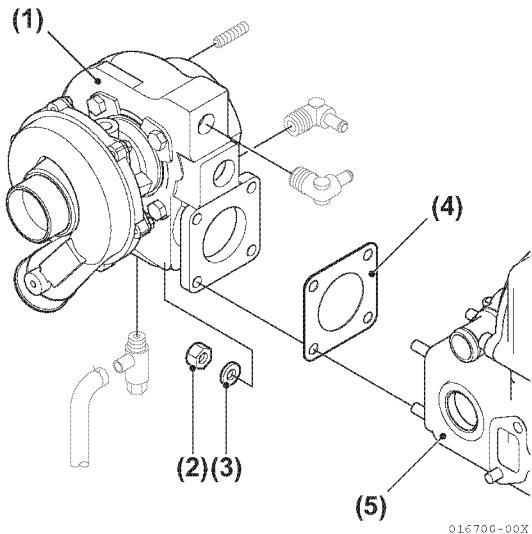

Figure 9-9
(Figure 9-9, (2),(3)) and remove turbocharger
(Figure 9-9, (1)) from heat exchanger body
(Figure 9-9, (5)).
- Remove gasket (Figure 9-9, (4)).